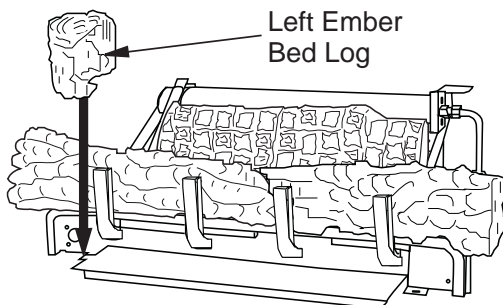

Figure 30 - Installing Left Ember Bed Log
- Place left ember bed log (18" D-073, 24" & 30" D-048) as shown in **Figure 30**. The log has groove on one side that sets on the ember bed pan. The back side of this log needs to rest against the front of the base assembly. Make sure the flame from the ember pan does not touch the ember bed log.